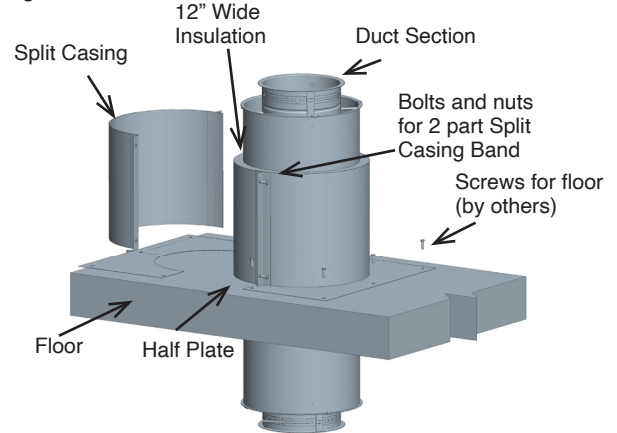

Figure 110: Step 1-2-3-4-5-6 of TPFK
6. Wrap a 12" wide strip of the fiber insulation around the grease duct. The insulation must butt up to the cover plate and outer wall of the duct. See Figure 110.